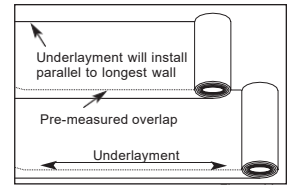

Figure 11
- The floating floor underlayment already has double-sided tape for ease of taping the pre-cut overlapping seams (Figure 11). If a non-adhesive underlayment is used, tape all seams with the included tape.